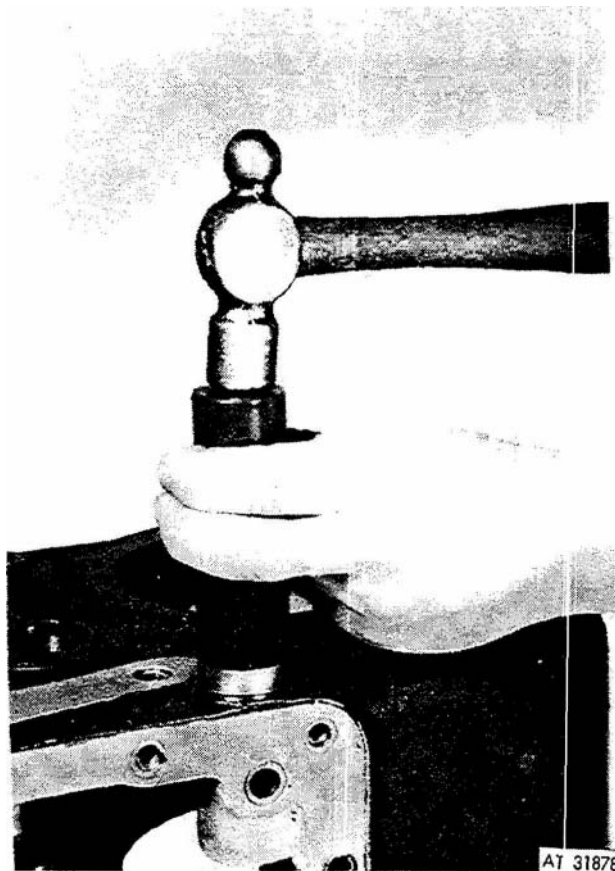

Figure 3-82. Installing shifter shaft seals.
(29) Using a suitable hammer and adapter, install seals (21 and 30) in transfer case (fig 3-82).